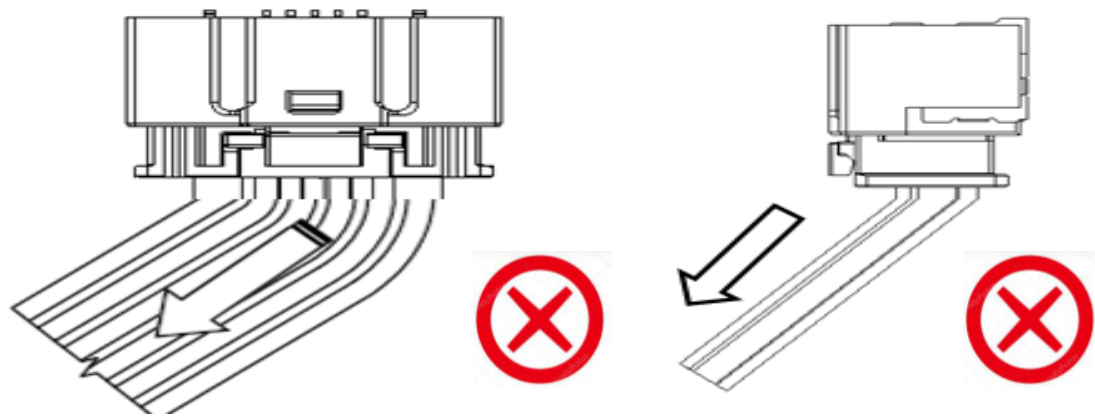

Fig 9.3.2 Condition wires are bend excessively or tension is added
- When pulling wires around inside actual machine, please do not use under the condition that wires are bent excessively or tension is added. That might be reason for terminal to be pulled out because force is added to terminal crimping zone or terminal insertion portion of receptacle by wire tension. Especially, please prevent force from being applied to only a few particular wires. ( Fig 9.3.2 )